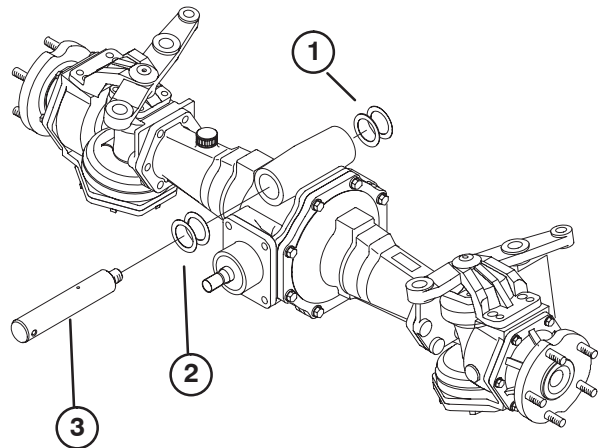

Figure 3
1. Mount new axle to axle support with new washers and pivot pin previously removed (Fig. 3 & 4). Install pivot pin from front of axle support. Washers to be positioned between front and rear of axle and axle support as shown in figure 3. One or two of each washer may be required between front of axle and axle support.